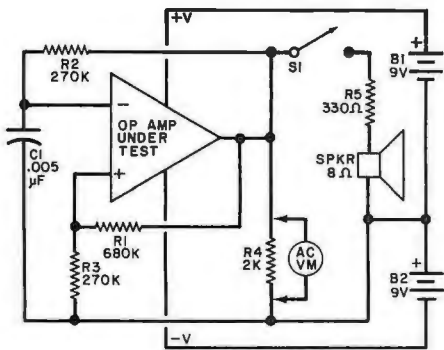

Fig. 1. Simple op amp tester has meter and audio outputs.
**Op-Amp Testing.** The first experiment to try with your op amp is shown schematically in Fig. 1. This is an op-amp test circuit, a multivibrator arrangement where the IC acts as a free-running oscillator that produces a square-wave output.
to that shown in Fig. 1, except that the value of C1 has been greatly increased to slow down the repetition rate to about 1 Hz (1 pps). Display circuit A shows the addition of a conventional silicon diode and a LED (any color) that will pulse on with each positive-going portion of the oscillation pulse. The variation shown in circuit B employs two differently colored LED's. Arranged with silicon diodes, the LED's pulse on and off in step with the op amp's oscillator signal. (Note: some of the older type green and yellow LED's require more drive current than do red LED's, which means that they might not glow as brightly. If you use the newer GaP green or yellow LED's, you will encounter no difficulty in glow light level.) The two-color circuit can also serve as a polarity indicator for other circuits, if you assume the red LED to be on for one polarity and the green LED on for the other polarity.